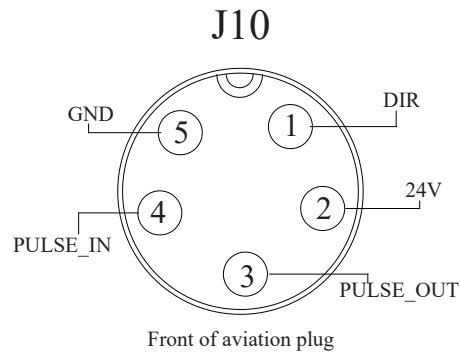

Figure 4
5. Schematic diagram of the EFG-20 electric gripper controlled by the interface at B (as shown in Figure 4)